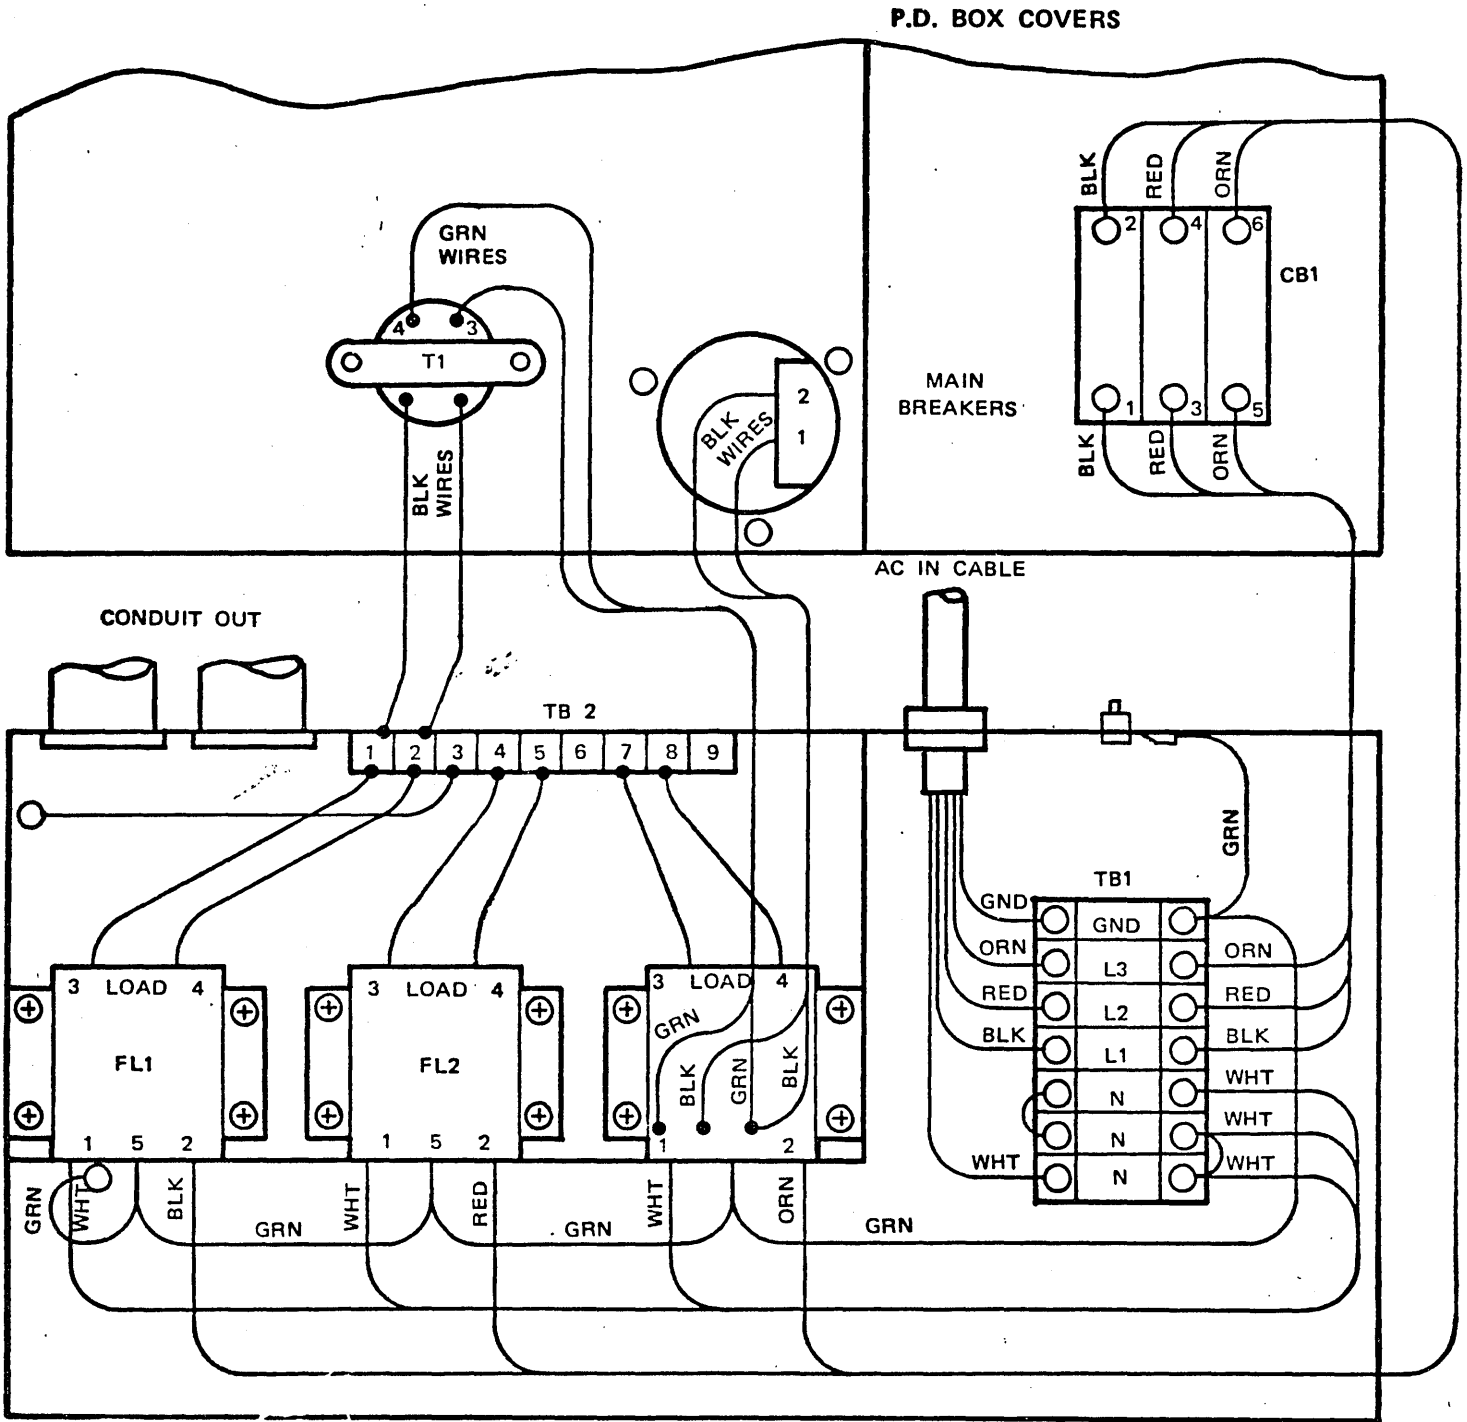

Figure 6A-12. P.D. Box Assembly
3. Refer to Figure 6A-12 and locate the line filter.
2. Refer to Figure 6A-12 and locate the circuit breaker.
4. With an Ohmmeter check for continuity across the circuit breaker terminals. If no continuity is present, operate the breaker lever, if there is no continuity when closed (ON), replace the breaker.